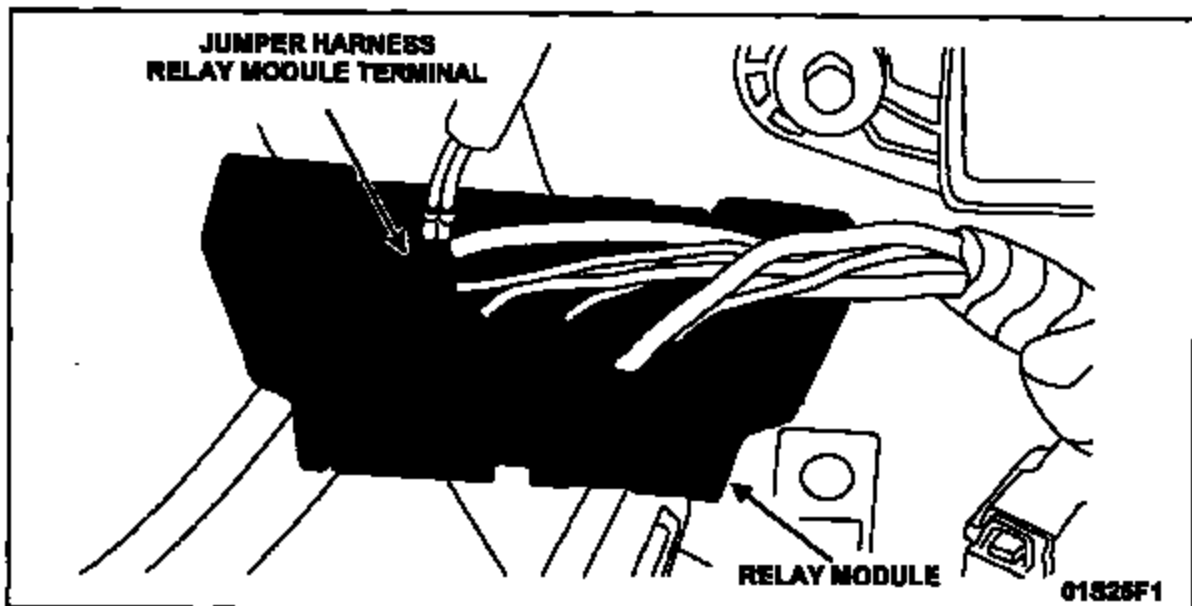

FIGURE 6
3. Insert the opposite end of the jumper harness into the cavity of the relay module from which the black wire was removed. Lightly pull on the jumper harness to ensure that the terminal is locked into the connector. See Figure 6.